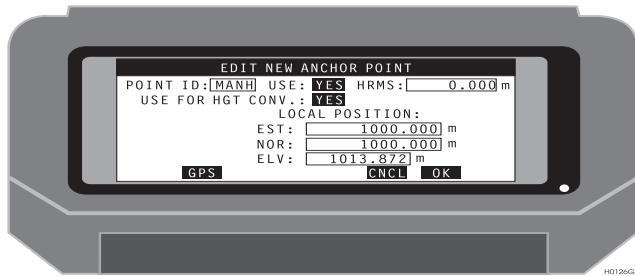

Figure 2.44. Edit New Anchor Point (Local) Screen
9. To enter a new point to the definition list, use the Edit New Anchor Point (local) screen (Figure 2.44).